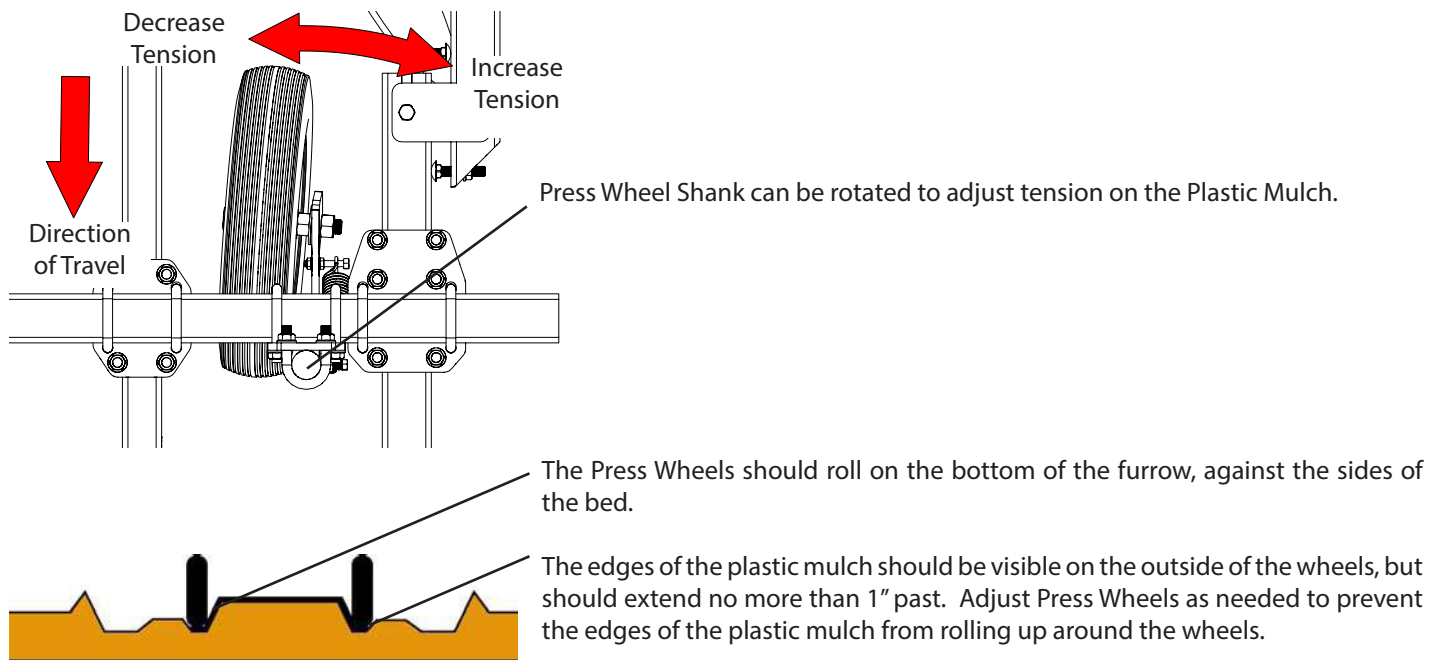

Figure 23: Plastic Mulch Tension Adjustment
- NOTE: Make sure to adjust the Press Wheel spacing to make sure that the edges of the plastic mulch are just past the tire (Figure 23).